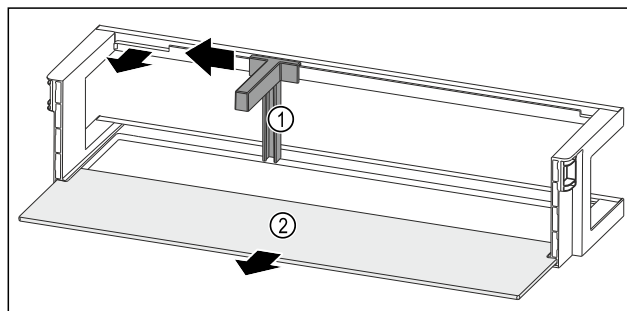

Fig. 163 Door rack with bottle holder and shelf
- Slide the bottle holder Fig. 163 (1) to the side as far as the recess.
- Remove the bottle holder Fig. 163 (1).
- Remove the shelf Fig. 163 (2).